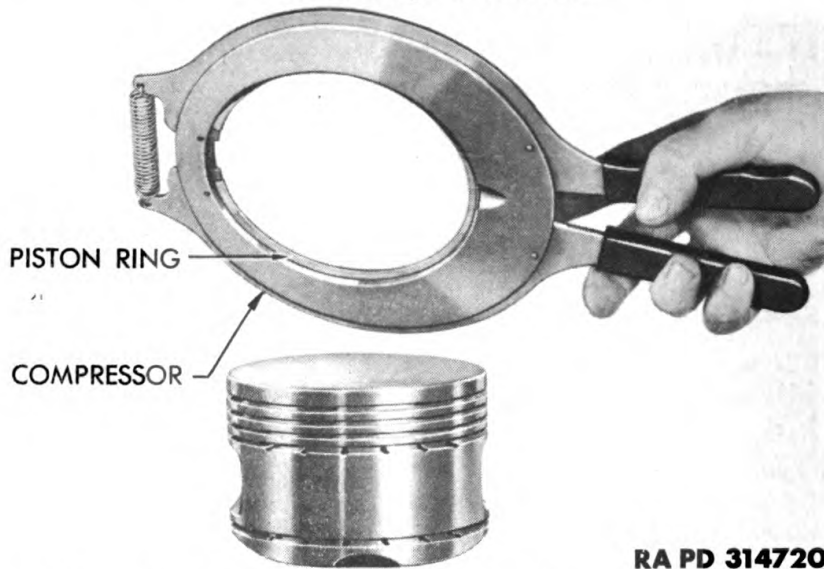

Figure 114 – Installing Piston Rings Using Applier 41-A-329-500
a. Remove Piston Rings. Using piston ring tool, remove five piston rings from each piston (fig. 114). Unless rings are in unusually good condition, replace them after piston inspection. As the piston pin and articulated rod for each piston assembly was removed during engine disassembly, all parts are now disassembled.